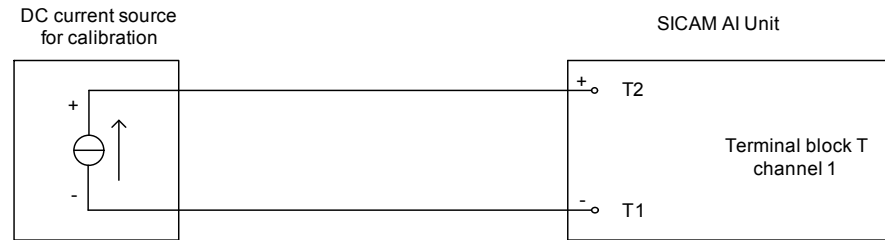

Fig. 10-1 Measurement Setup for Calibrating the Direct-Current Measuring Range
The setup for channel 1 of the terminal block T (as shown in figure 10-1) can be applied to calibrate all other channels of the terminal blocks T and Q.
- ◇ Set up the measurement as shown in figure 10-1 for each channel.